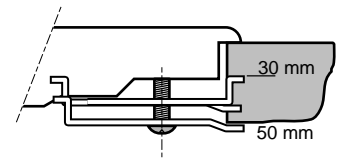

fig. 9
- **For CKB 640 only:** secure the fixing brackets (see fig. 9).